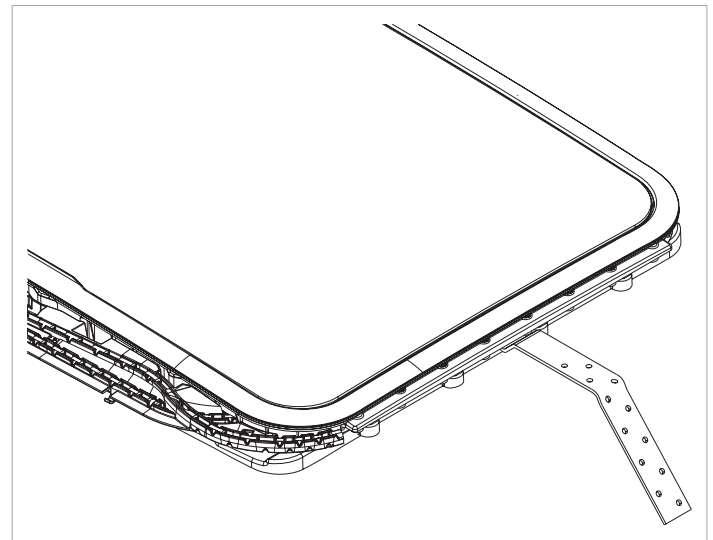

Fig. 05: Support bracket placed to reinforce the car roof skin
- ▶ Install support bracket (Fig. 05) to reinforce the car roof skin. See the technical portal dealers.webasto.com or www.techwebasto.com for more information.